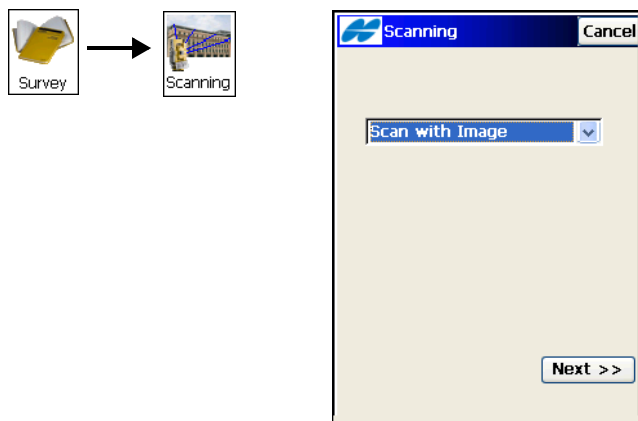

Figure 8-55. Select Scanning Type
1. To open the **Scanning** screen, tap **Survey** ► **Scanning** in the Robotic mode (Figure 8-55).
2. On the **Scanning** screen, select a desired scan type, either *Scan with Image* or *Scan w/o Image*, and tap **Next** (Figure 8-55).